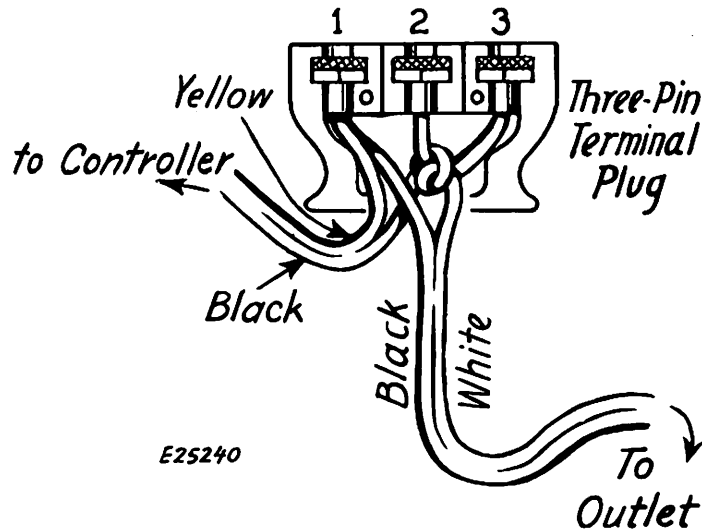

Fig. 11. Wiring Connections to Three-Pin Terminal Plug
**CONTROLLER LEADS**—For all Portable Machines equipped with foot controller—Fasten lead with **YELLOW** marker to connection sleeve No. 1, Fig. 11, on three-pin terminal plug. Fasten **SOLID BLACK** lead to connection sleeve No. 2, as shown in Fig. 11.
**LINE LEADS (Electric Outlet Plug Leads)**—**ALL MOTORS**—Fasten **SOLID BLACK** lead to connection No. 1 of three-pin terminal plug and **WHITE** lead to connection No. 3 of terminal plug, as shown in Fig. 11.